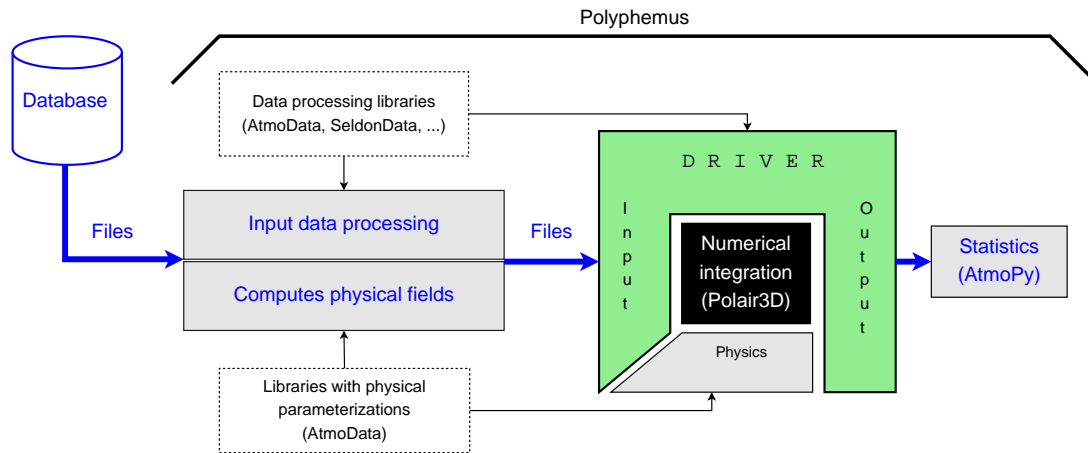

Figure 1.1: Polyphemus flowchart (preprocessing, model computations, postprocessing).
Its flowchart is shown in Figure 1.1, in which three steps may be identified: (1) preprocessing (interpolations, physical parameterizations), (2) model computations (possibly with data assimilation or any other method implemented in a driver), (3) postprocessing (comparisons to measurements, statistics, visualization).